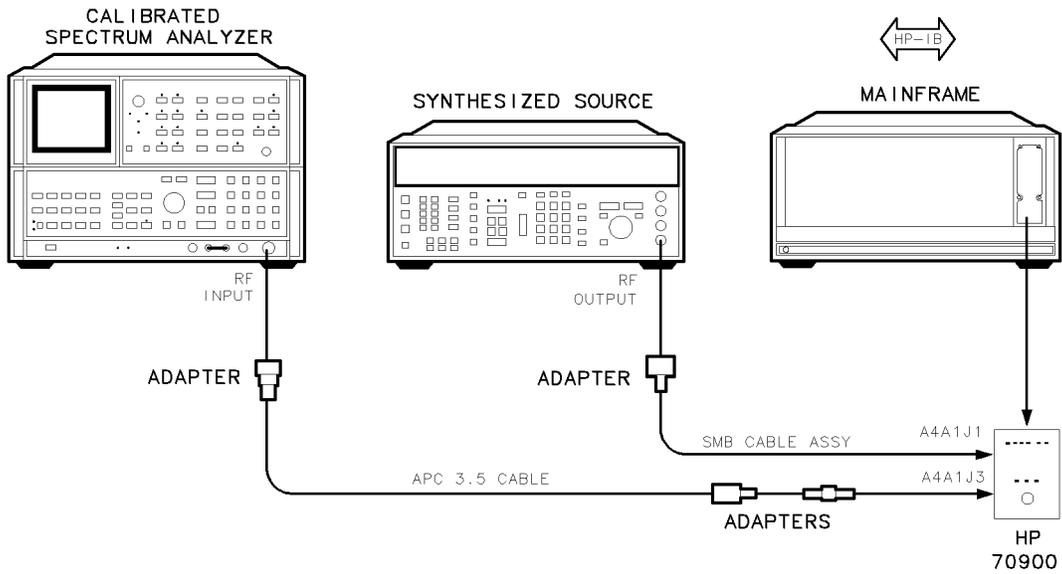
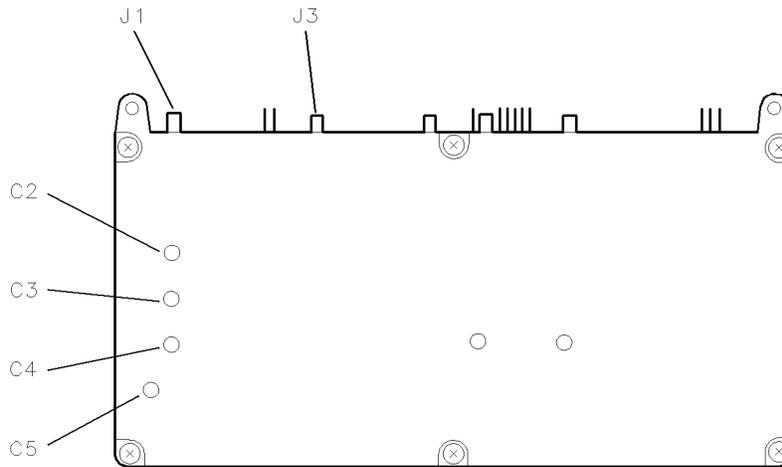

Figure 6-6. Equipment Setup for Adjustment 03. 300 MHz Bandpass Filter
Figure 6-7. Locations for Adjustment 03. 300 MHz Bandpass Filter
6. Connect the equipment as shown in Figure 6-6. Refer to Figure 6-7 for the location of A4A1 300 MHz amplifier (J1) and (J3).